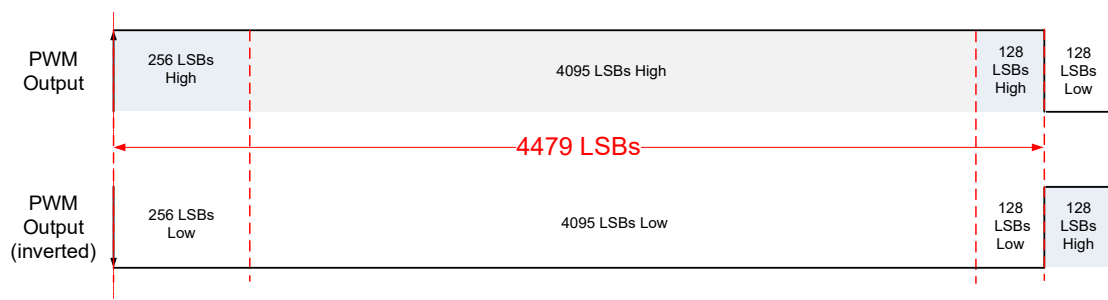
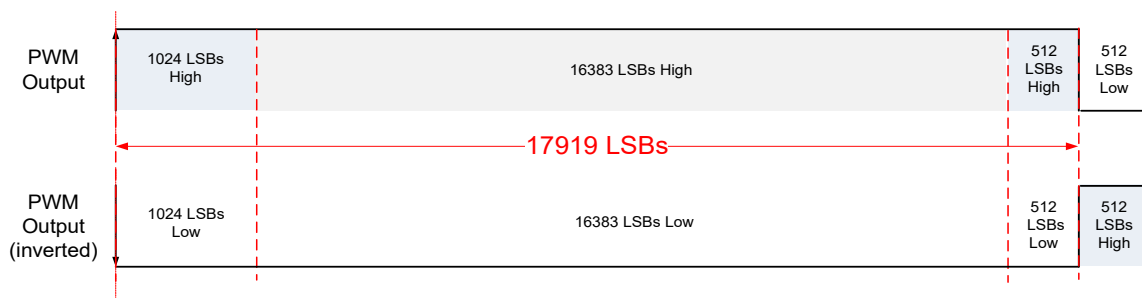

Figure 19. 12-bit PWM Signal in Diagnostics High Mode
Figure 21. 14-bit PWM Signal in Diagnostics High Mode
- Diagnostic high mode, see Figure 19 and Figure 21;